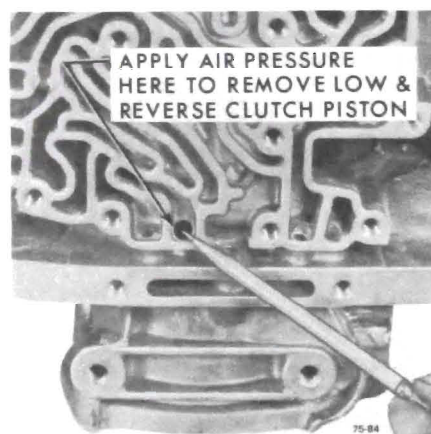

Figure 75-121
3. Remove low and reverse clutch piston assembly. Aid removal with the use of compressed air in passage shown. See Figure 75-121.